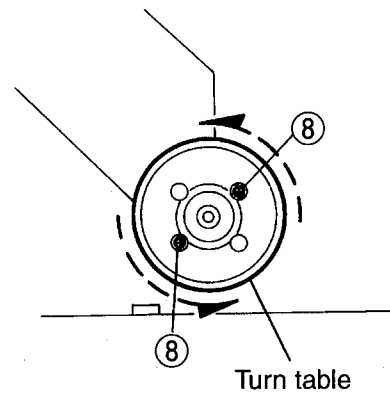

Fig.25
2. While turning the turn table, remove the two screws (8) retaining the spindle motor and take out the spindle motor (See Fig.25).